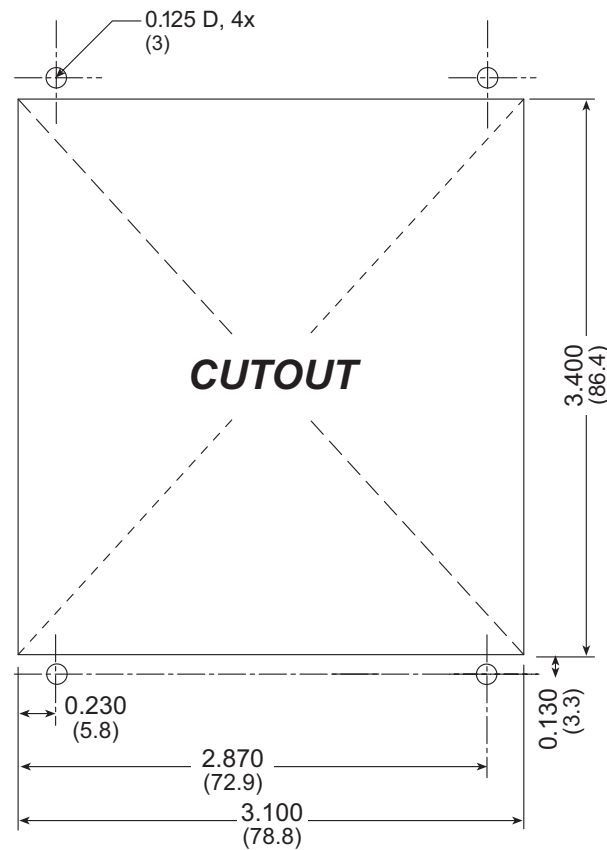

Figure C-9. Recommended Cutout Dimensions
1. Cut mounting holes in the mounting panel in accordance with the recommended dimensions in Figure C-9, then use the bezel faceplate to mount the LCD/keypad module onto the panel.